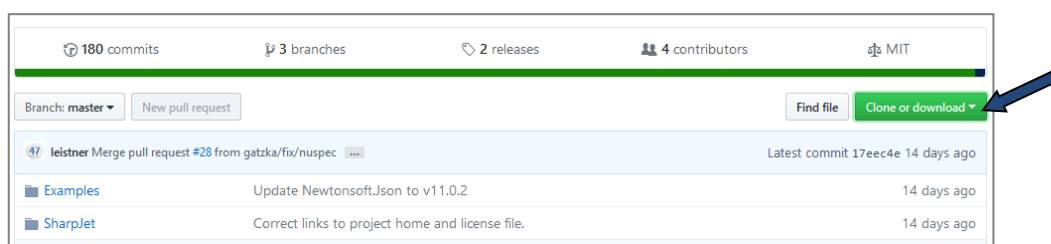

Figure 3.1: „Clone or Download“ button on GitHub to get WTX Weighing API.
- Download the WTX Weighing API by accessing the GitHub Repository under <https://github.com/HBM/Weighing-API> and by clicking on „Clone or Download“ as indicated by the arrow in Figure 3.1.